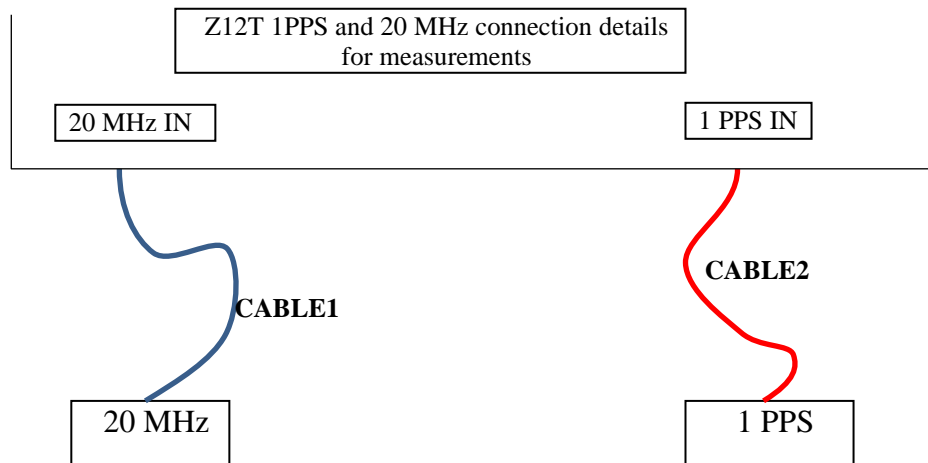

Figure 1. Example of connection between the local 20 MHz and 1PPS signals when the 20 MHz OUT is not available.
**For all measurements the impedance setting on both channels of the oscilloscope must be 50 Ohms.** In Figure 1 is shown an example where the two cables connecting the 20MHz and the 1PPS signal to the receiver are called CABLE1 and CABLE2. This example refers to a receiver that doesn't have 20 MHz OUT available.